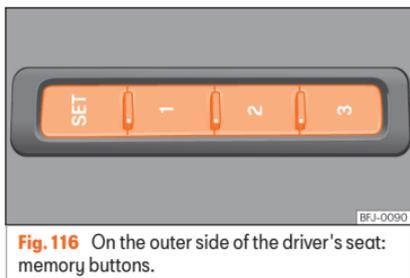

Fig. 116 On the outer side of the driver's seat: memory buttons.
»» **Fig. 116.**
- Press and hold the **SET** button »» Fig. 116.